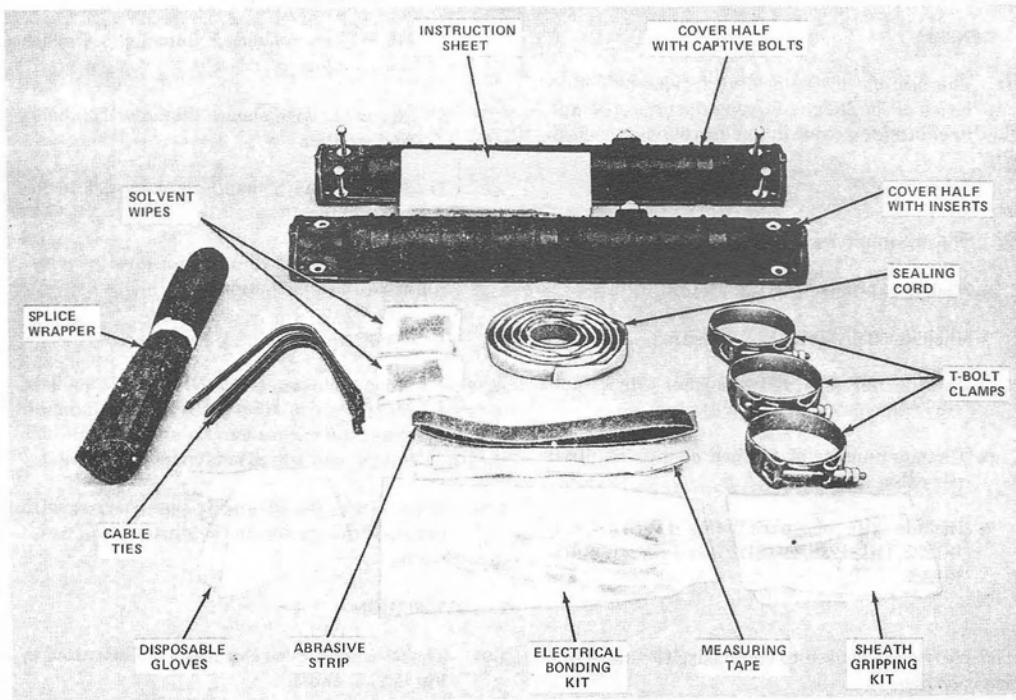

Fig. 1—50AA3 Closure
**2.01** The 50- and 51-type closures are illustrated in Fig. 1 2, 3, and 4.